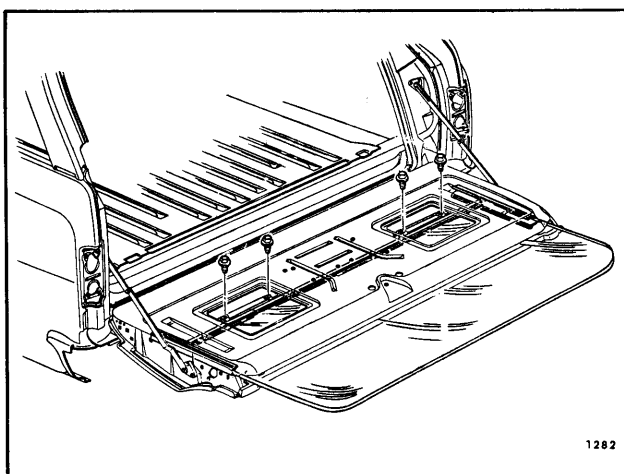

Fig. 9-10—Tail Gate Inner Panel Cam Attachments
2. Operate tail gate window to a point that sash channel cam attaching bolts are accessible as depicted in Fig. 9-10.
3. Remove right and left cam attaching bolts (Fig. 9-10). Slide cams to disengage from regulator lift arm rollers and remove cams from tail gate.